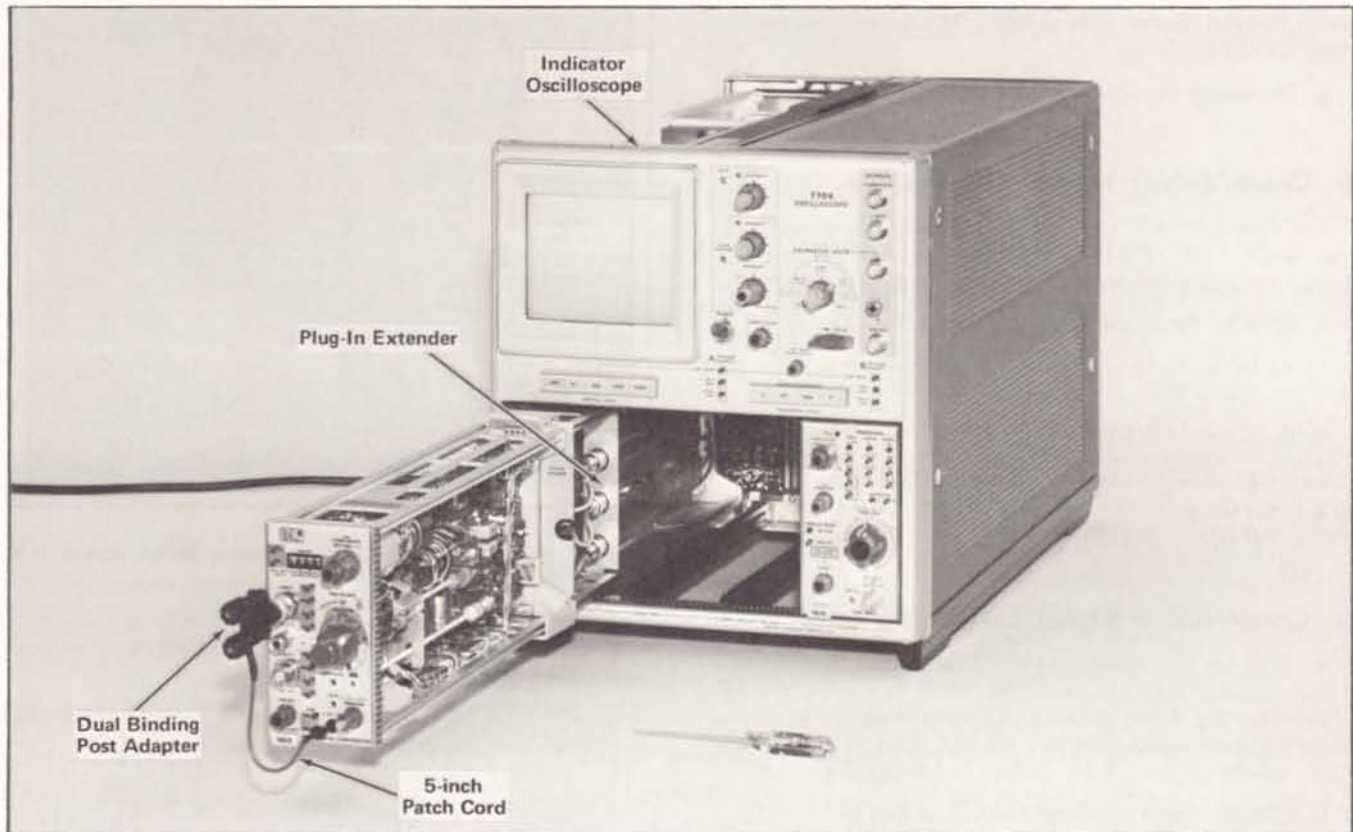

Fig. 5-5. Initial setup showing equipment required for performing steps 10 and 11. For a performance check the Plug-In Extender is not needed.
- a. Test equipment setup, with connections made at completion of step 10c, is shown in Fig. 5-5.